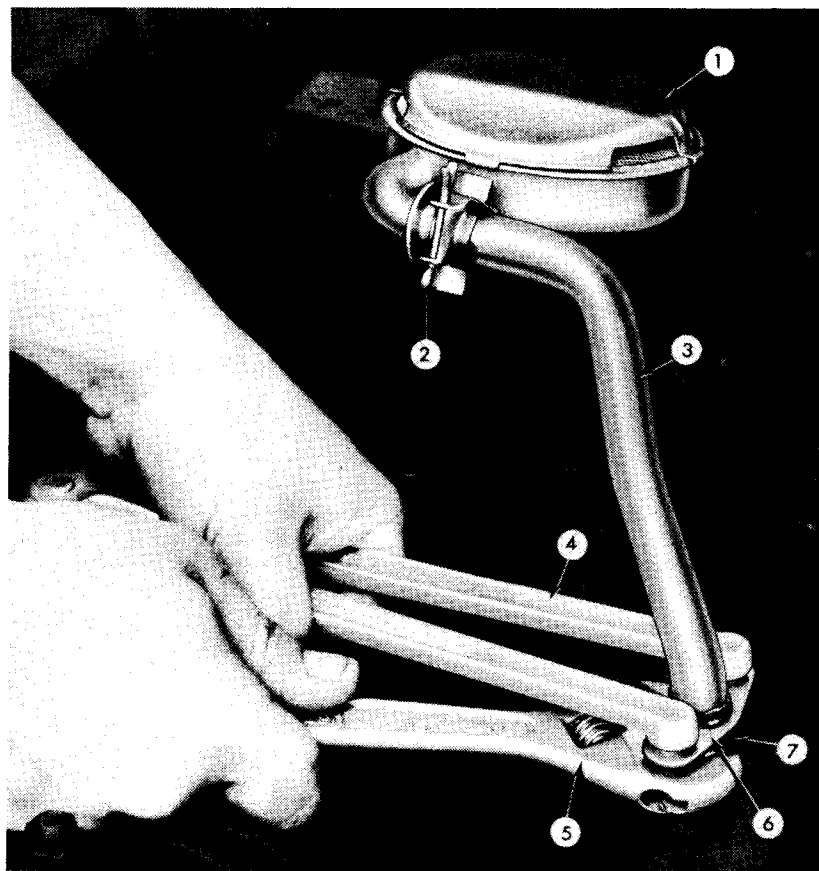

FIG. 2
After proper positioning of the suction pipe (3, Fig.2) insert the ends of the spanner wrench (4) in the holes of the flange (6) to hold the pipe in position, and using an 8" adjustable wrench (5), tighten the lock nut (7) securely. An 8" adjustable wrench rather than a standard $15/16"$ open end wrench should be used because the thickness of the open end wrench will not allow the pins of the spanner wrench to enter the flange deep enough without the danger of the spanner slipping out of the holes of the flange.